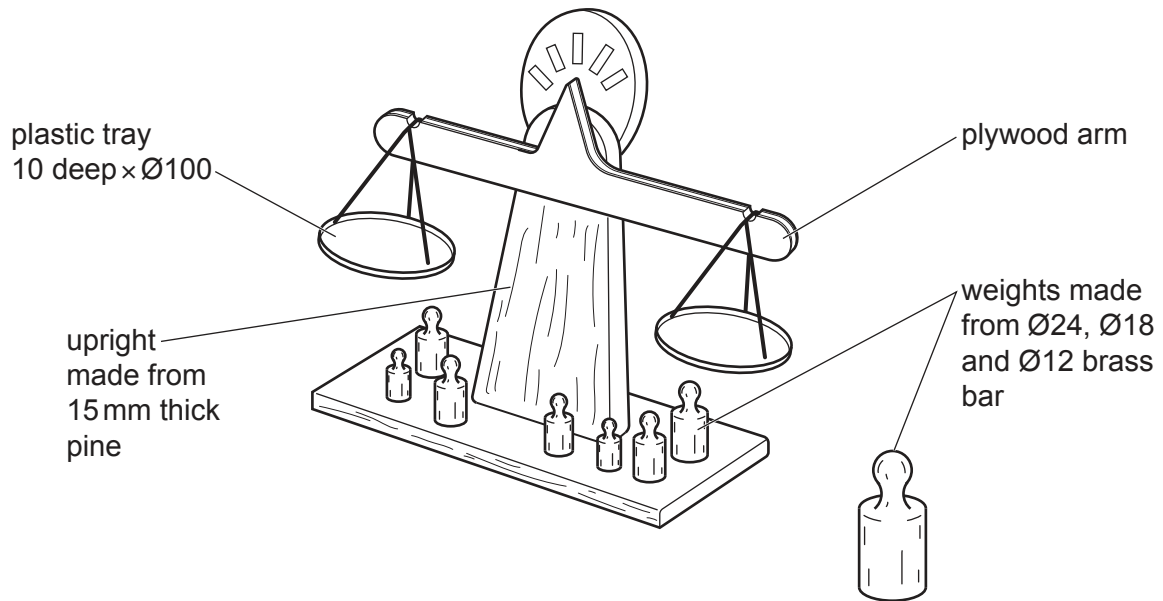

Fig. 1.1
- 1 Fig. 1.1 gives details of a set of weighing scales to be made in a school workshop.